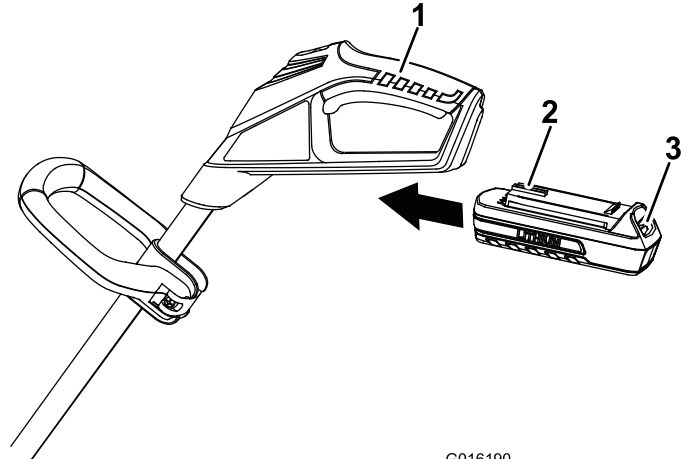

Figure 5
- Align the tongue of the battery pack with the cavity in the handle housing (Figure 5).
- Grasp the trigger handle (Figure 5).